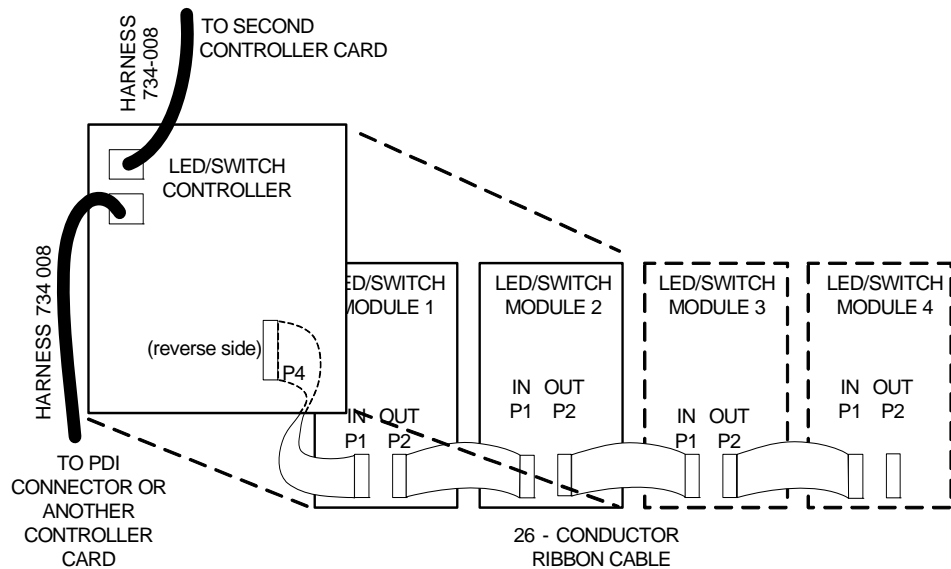

Figure 2-15. LED/Switch Controller Wiring
1. Use harness 734-008 to connect P2 on the controller card to one of the 4-pin connectors on the PDI. See Figure 2-15.